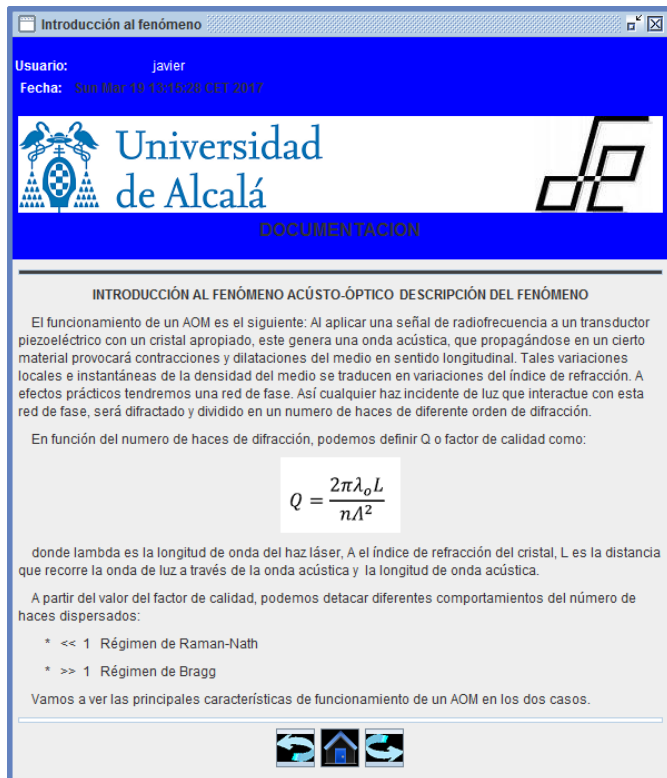

Figure 2. Example of theory module for your GUI
- **Theory:** Physics principles behind AO interaction should be described, as a way to introduce the user to these optical phenomena. Figure 2 shows an example of this module. **You do not have to replicate this GUI literally;** just get it as inspiration for your own theory module.